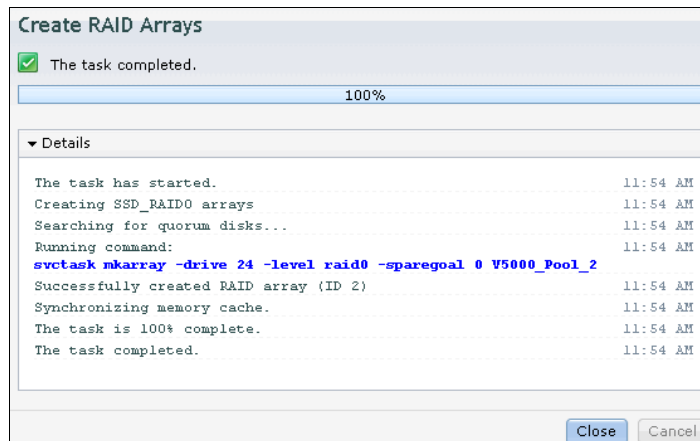

Figure 9-15 Array creation completed task
- Now the array is configured on the SSDs and added to the selected storage pool. Click **Close** after the task completes, as shown in Figure 9-15.